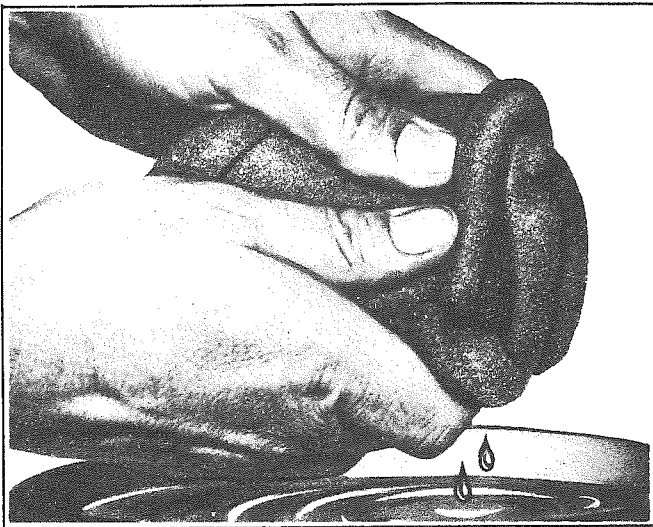

Figure 53 – Cleaning Polywrap Band
6. If band is usable, wash in kerosene or mineral spirits and squeeze out excess solvent (see figure 53).